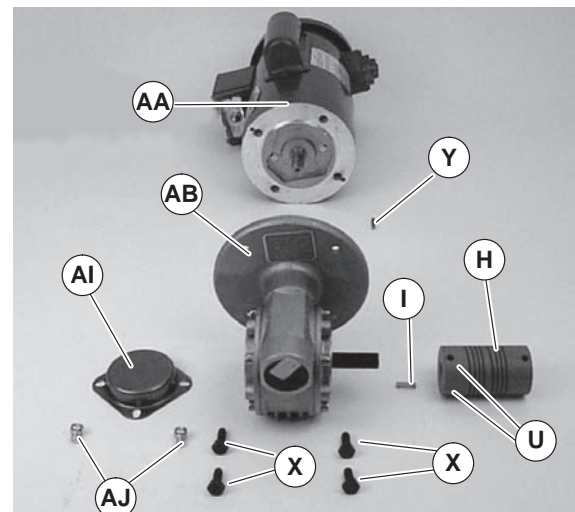

Figure 26
3. Remove four screws (Figure 26, item X). Detach motor (AA) from gear reducer (AB). Retain shaft key (Y).
9. With key (Figure 26, item Y) in keyway, slide motor (AA) and gear reducer (AB) together. Install screws (X) and tighten.
10. Attach coupling (Figure 26, item H) to gear reducer shaft. Tighten two set screws (U) to 32 in-lb (4.7 Nm).